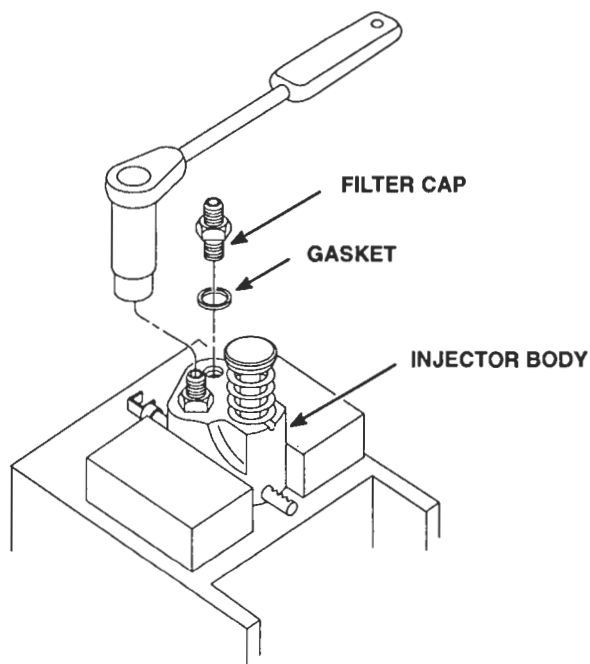

Figure 29. Installing Filter Cap
3. Place a new gasket on each filter cap. Lubricate the threads and install the filter caps. Tighten the filter caps to 65–75 lb-ft (88–102 N·m) torque with a 9/16 inches deep socket (Figure 29.)